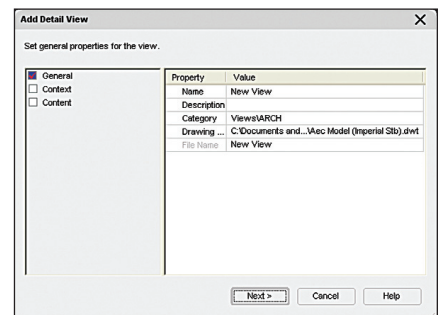

Figure 5
- Create a View file in Project Navigator and then open it (Figure 5). The Add Detail View is set up to utilize call-outs from other Views, but we will not need this feature for this procedure. In the context and content views of